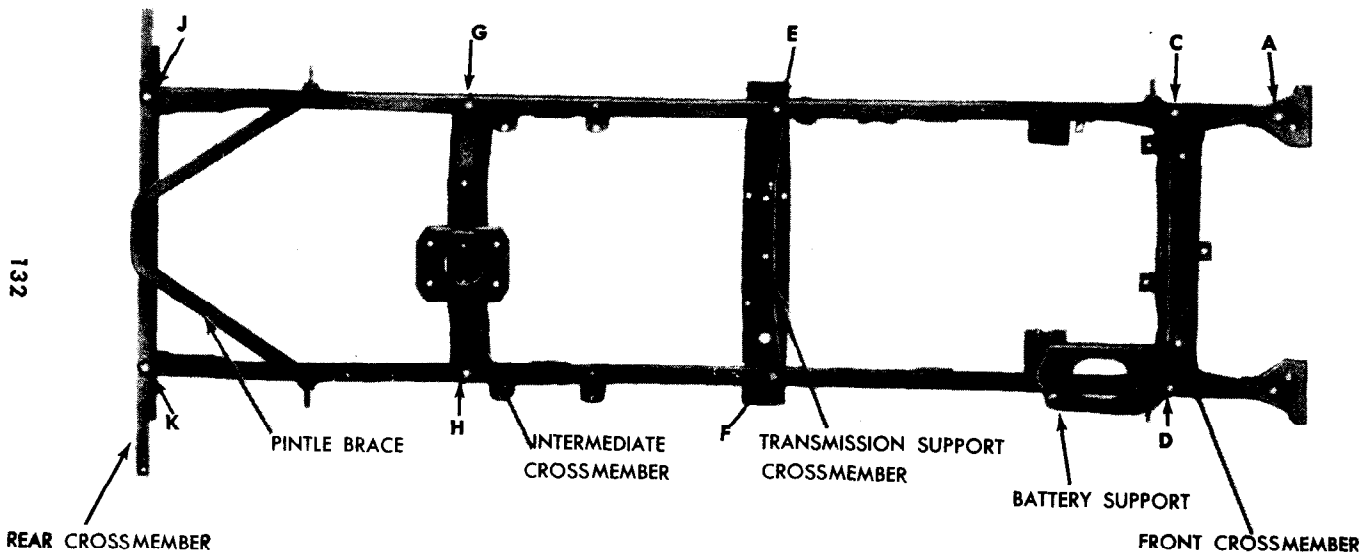

Figure 105 — Frame Assembly
(1) CHECK FRAME ALINEMENT (fig. 105). The extent of misalignment of the frame can be determined by taking measurements at the various points as indicated in figure 105. Measure the distance from A to D and from B to C. The distance between these two points should not vary more than $\frac{1}{8}$ inch. Measure the distance from C to F and D to E. The distance between these two points should not vary more than $\frac{1}{8}$ inch. Measure the distance from E to H and F to G. The distance between these two points should not vary more than $\frac{1}{8}$ inch. Measure the distance from H to J and G to K. The distance between these two points should not vary more than $\frac{1}{8}$ inch. If the frame is found to be out of alinement, in most cases it can be corrected by straightening or replacing the damaged frame members or sections.
(2) INSPECT FRAME FOR LOOSE RIVETS. Replace any rivets that are loose or missing. Replace the battery support bracket if bent.